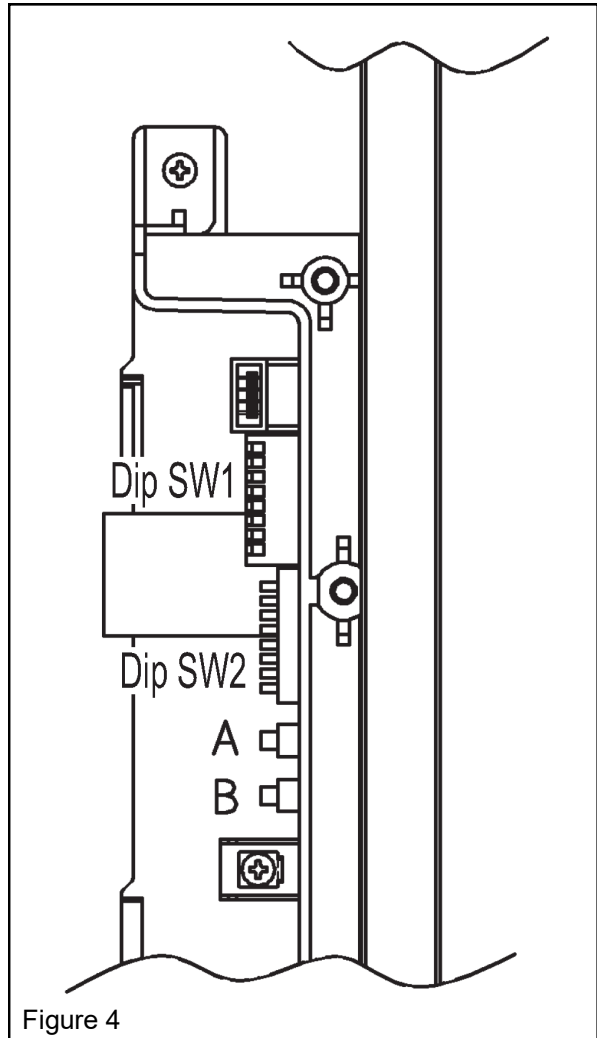

Figure 4
3. Check the gas type using the rating label on the side of the unit. Confirm that the gas type switch is in the correct position (switch 1 of Dip SW2 is ON for natural gas, NG, and OFF for propane gas, LPG.) (Figure 4).
7. Move switch 8 of Dip SW1 to ON (Figure 4).
8. Push the PC board switch A for one second (Figure 4).